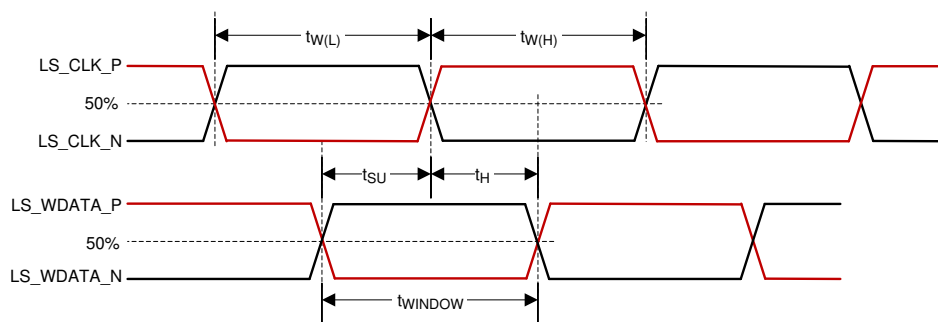

Figure 6-5. LSIF Timing Requirements
- (3) See Figure 6-5 for pulse duration high and low time for LSIF.
- (4) See Figure 6-5 for setup and hold time for LSIF.